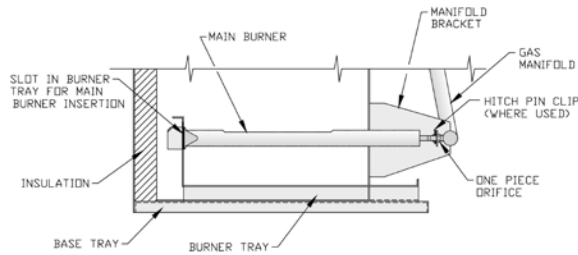

Figure 10: Combustion Chamber
G. Install Pilot/Burner Assembly (shipped in Gas Controls Carton). See Figure 10.